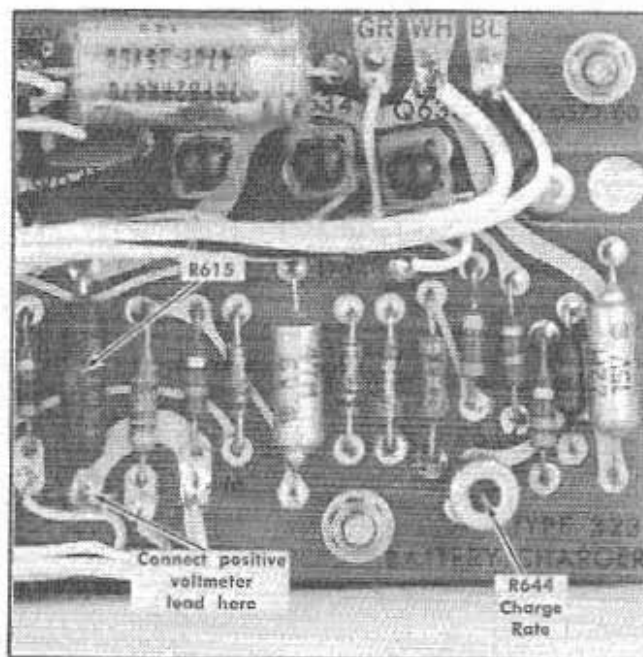

Fig. 6-1. Location of R615 and Charge Rate adjustment (Power Pack board).
b. Connect the DC voltmeter across R615 (Fig. 6-1). The positive lead should be connected to the bottom of R615. Be sure the negative lead of the voltmeter is isolated from ground.
d. ADJUST—Charge Rate adjustment, R644 (Fig. 6-1), for a meter reading of 54 millivolts.